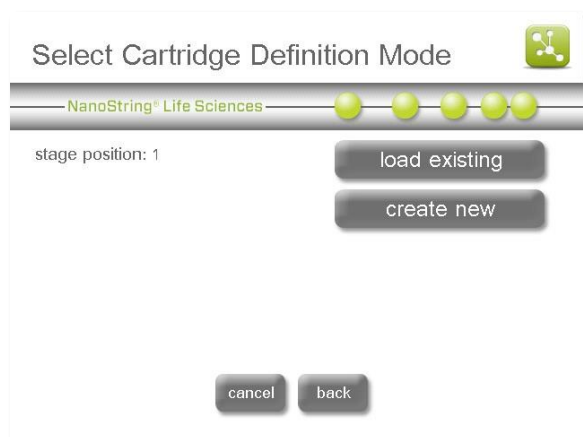

Figure 85: The 'Select Cartridge Definition Mode' screen.
3. The 'Select Cartridge Definition Mode' screen will appear (**Figure 85**).